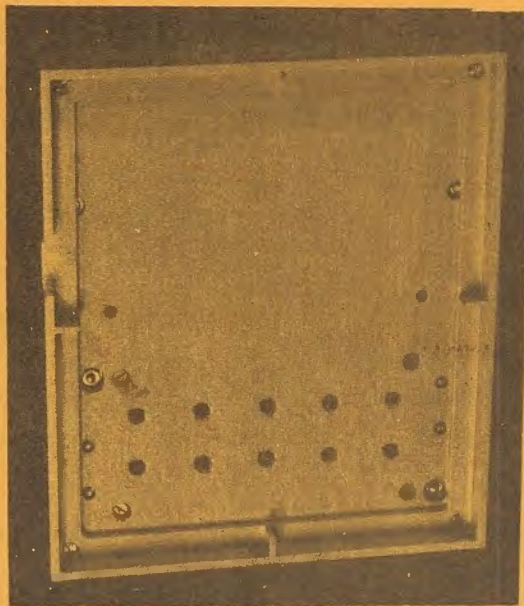

FIG. 3. DRILLED BACKBOARD WITH
- * (i) The backboard being modified by drilling fanning holes and fitting a spacing block (Drawing No. VB.4643) on the underside. Fig. 3 shows the underside view of the backboard with the fanning holes drilled and the spacing block fitted.